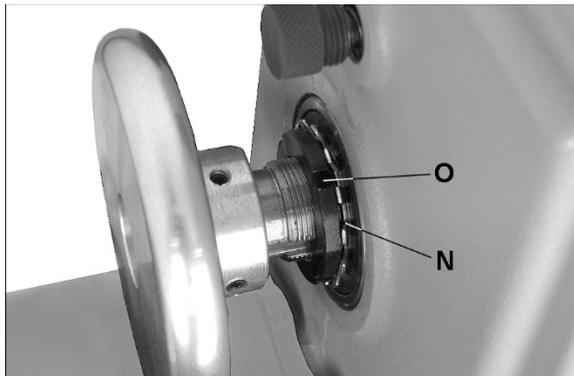

Figure 8-12: correcting spindle play
5. Loosen and remove bearing lock nut and tabbed lock washer (see O/N, Figure 8-12).
11. Install tabbed lock washer, and bearing lock nut (N/O, Figure 8-12). Check for any spindle play at this point (see sect. 8.13).
1. Use a screwdriver to carefully bend back any tabs on the tabbed lock washer (N, Figure 8-12) that interfere with the insets on the bearing lock nut (O, Figure 8-12).
2. Place the end of a flat head screwdriver down against one of the insets of the bearing lock nut (O, Figure 8-12).
3. Tap the handle of screwdriver with a mallet so that it turns the bearing lock nut (O, Figure 8-12) tighter in a clockwise direction. Rotate bearing lock nut only about 1/16" at a time.
5. After the bearing lock nut (O, Figure 8-12) has been properly adjusted, carefully bend back into place any tabs on the tabbed lock washer (N, Figure 8-12).